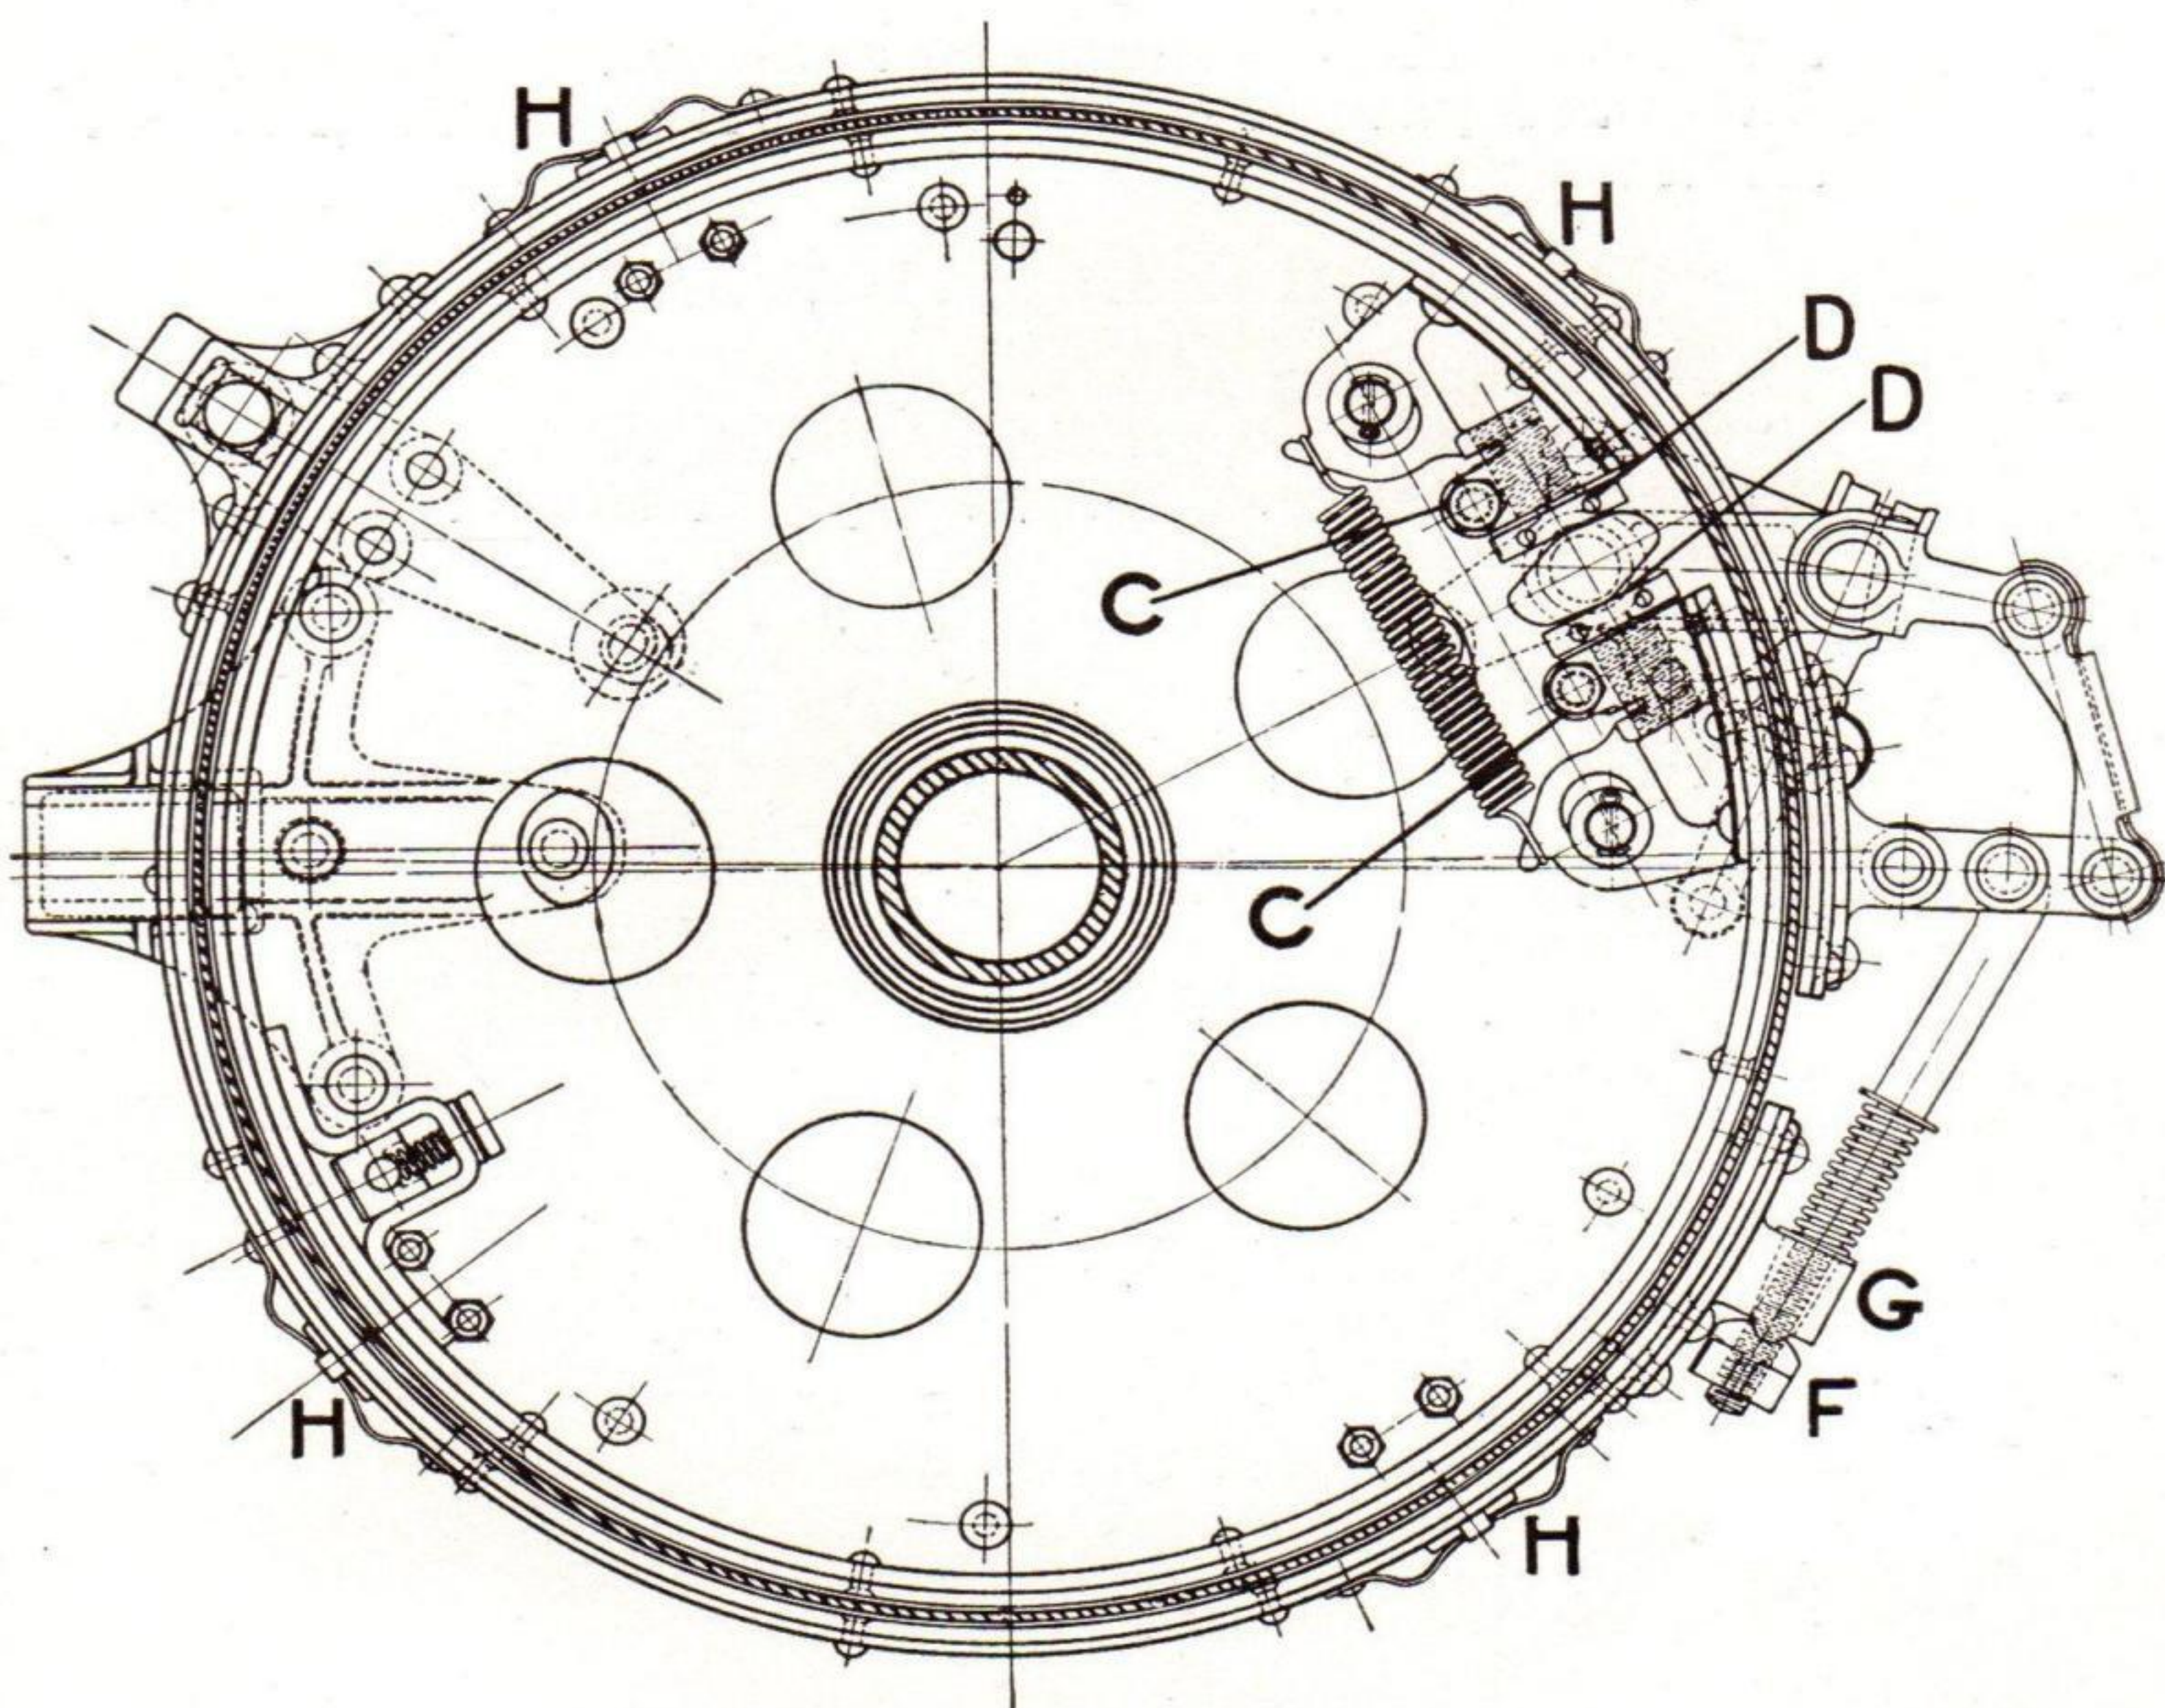

Fig. 26. Brake Assembly
The following directions apply to adjustment for wear: To draw the external brake band closer to the drum, turn the nut "F" (Fig. 26) to the right, or clockwise, being sure it is always turned to a place where the groove "G," in its under face, fully engages with the rib on the top of the fitting, thus automatically locking the adjustment.
Jack up the rear axle. Put all brakes on both sides of the axle in a complete "off" position. Now, if the adjustment is merely to take up for wear of the brake band lining in service, it is only necessary (1) to remove the wheel, (2) remove the inspection hole cover in the drum, (3) loosen screws "C" "C" (Fig. 26), give cam plate "D" "D" one-half turn outward (i. e., to the left or counter clockwise) and tighten screws "C" "C."
With both wheels off the ground and all brakes on both sides of the car in a complete "off" position, adjust both upper and lower halves of the brake band by loosening the screws "C" "C" (Fig. 26) and turning the plates "D" "D" in or out as required until all parts of the brake band lining clear the drum by about $1/64$ of an inch. Then tighten the screws "C" "C."